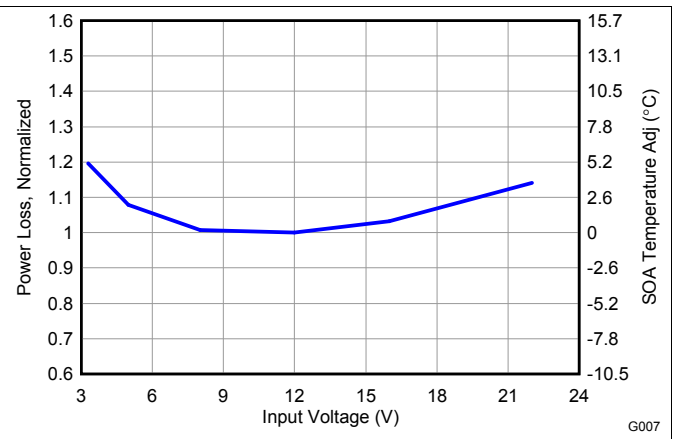

Figure 7. Normalized Power Loss vs Input Voltage
- Normalized Power Loss for input voltage ≈ 1.0 (Figure 7)
- SOA adjustment for input voltage ≈ 0°C (Figure 7)